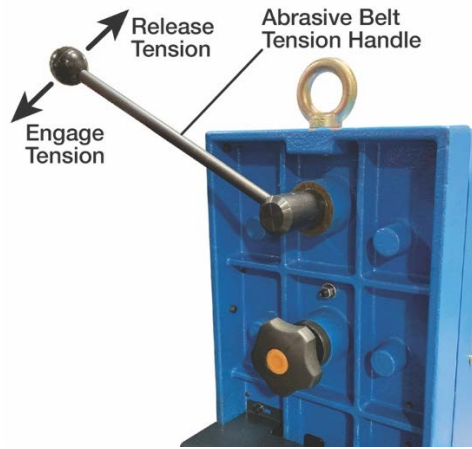

Figure 9-3: Abrasive Belt Tension Handle
4. Release the tension on the abrasive belt by rotating the abrasive belt tension handle clockwise (see Figure 9-3).
3. Release the tension on the abrasive belt by rotating the abrasive belt tension handle clockwise (see Figure 9-3).